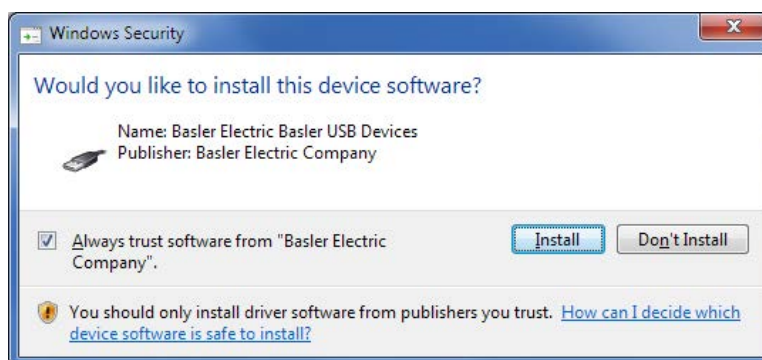

Figure 86. Windows Security
Step 6. If a Windows Security window (Figure 86) appears, click Install.